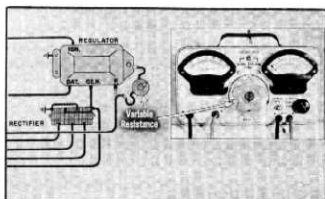

Fig. 42
1. To prevent the voltage regulator from operating without damaging the rectifier with high voltage, ground the "F" through a variable resistance using the 7-ohm resistance setting in a volts-amperes tester (fig. 42).